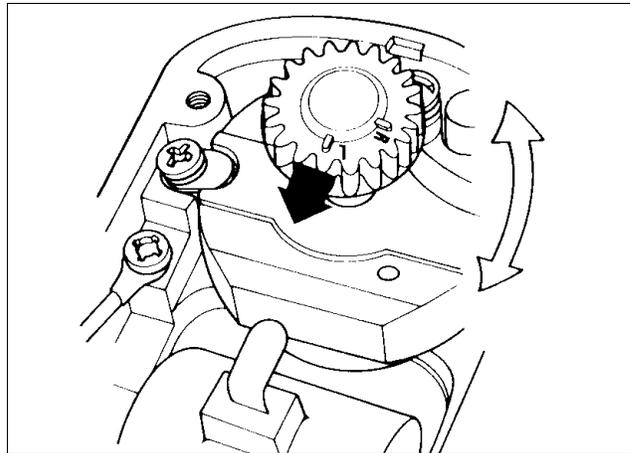

Figure 74-14. Rotor Gear Alignment
- (14) Install rotor gear onto end of rotor shaft.
- (15) Align the "L" or "R" (depending on the rotation of the magneto—look at data plate) on the rotor gear so that it points up, toward the high tension lead of the coil. Secure rotor shaft to prevent rotation during assembly. Alignment of rotor gear is critical. (See Figure 74-14)
- (16) Align the "L" or "R" hole in the distributor gear with the "L" or "R" in the distributor block. Use "L" for left-hand rotation and "R" for right-hand rotation magnetos.